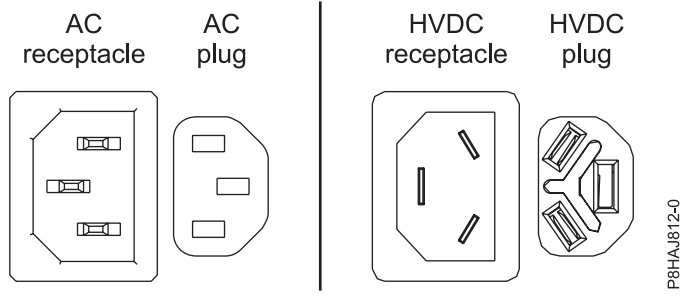
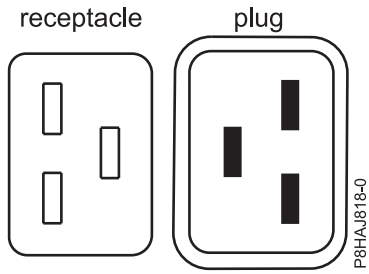
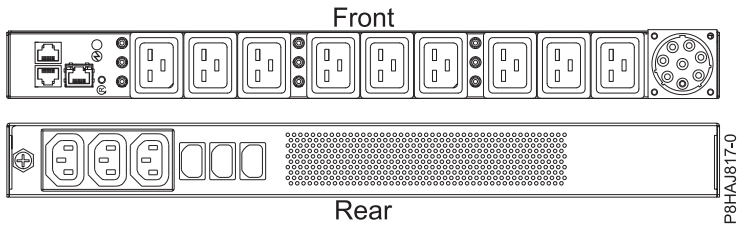

Figure 18. AC and HVDC connectors
Figure 19. Connectors for the 8408-44E system
Figure 20. PDU for the 8408-44E system
Figure 18 on page 38 shows the supported alternate current (AC) and high voltage direct current (HVDC) connectors. Figure 19 on page 38 and Figure 20 on page 38 show the supported connectors and power distribution unit (PDU) for 8408-44E.